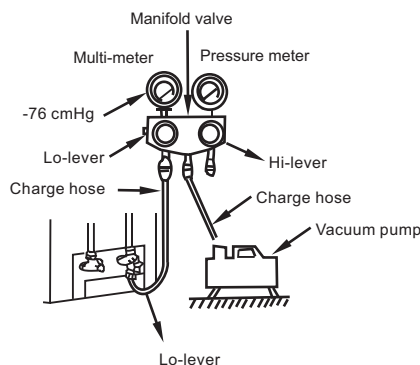

Fig. 7-4
- Expel the air with a vacuum pump (Refer to Fig. 7-4) (Please refer to its manual for the way of using manifold valve)